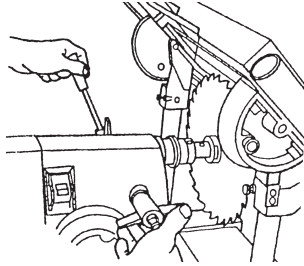

Figure 41
- Loosen the Quill Feed (shown in Figure 41) and extend the Quill so the Saw Blade is centered beneath the slot in the Table Insert. When it is centered, lock the Quill Feed.